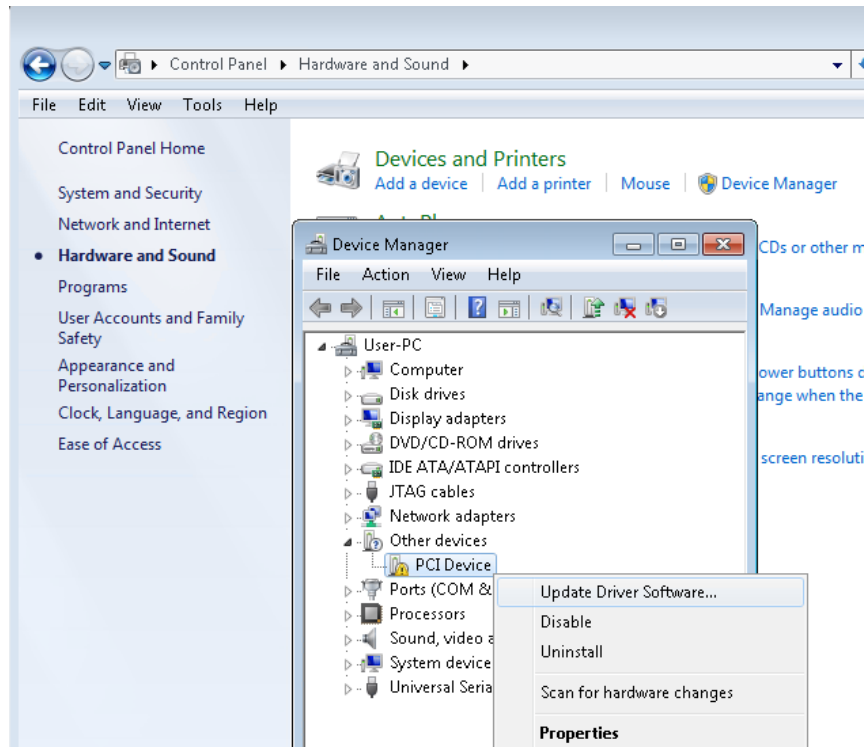

Figure 5-3 Screenshot of launching Update Driver Software... dialog
5. Click the Control Panel menu from Windows Start menu. Click the Hardware and Sound item before clicking the **Device Manager** to launch the Device Manager dialog. There will be a **PCI Device** item in the dialog, as shown in **Figure 5-3**. Move the mouse cursor to the **PCI**